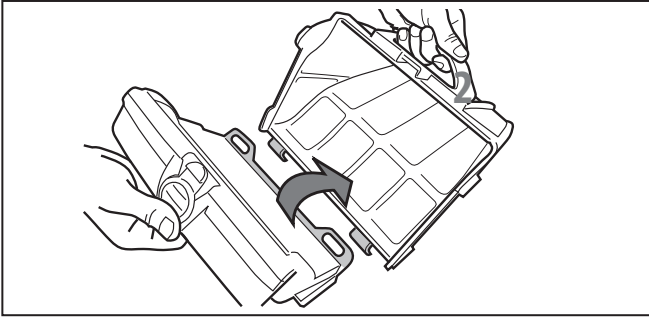

Figure 19. Release Filter Canister Handle
7. Separate the filter canister from the filter support (See Figure 19).